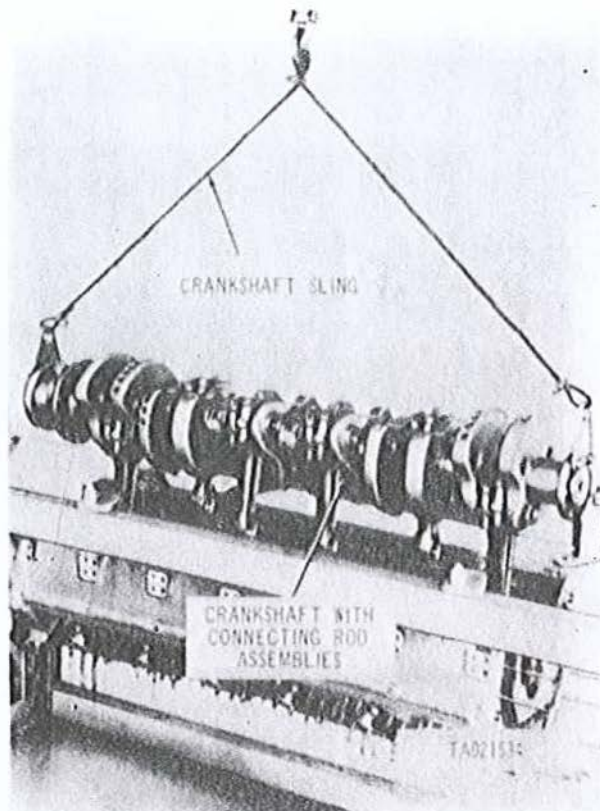

Figure 3-134. Removing or installing crankshaft and connecting rod assemblies using crankshaft and connecting rod sling.
i. Remove crankshaft with connecting rod assemblies installed as shown in fig. 3-134 using a suitable hoist. Place crankshaft assembly on suitable "V" blocks with crankshaft resting on bearing journals. Remove sling from crankshaft.